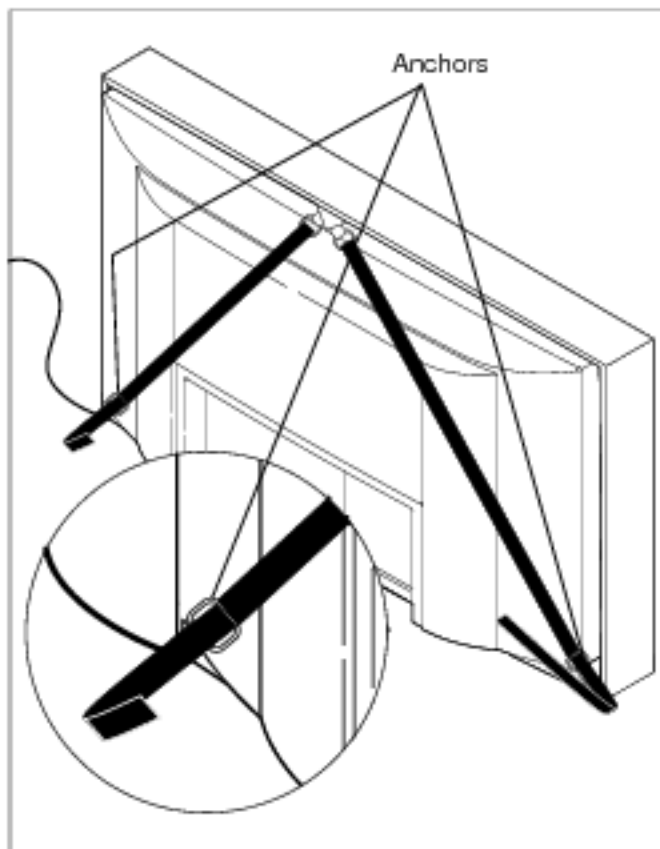

Figure 8
18. Route mounting straps under and through two anchors at each bottom corner of frame. (See Figure 8)
19. Pull each strap upward until snug and secure by pressing hook side of velcro straps to loop side of velcro straps. (See Figure 8)